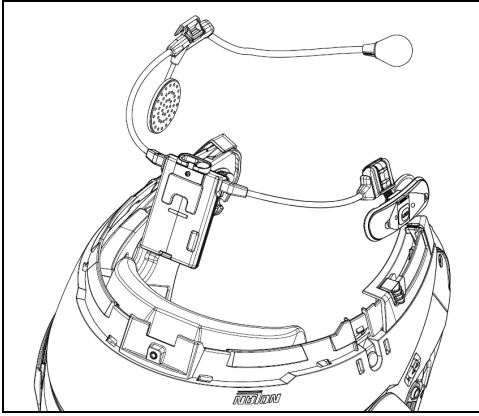

Fig. 8
- Place the system in the special housing in the back of the helmet, pushing it all the way into the groove (Fig. 8).